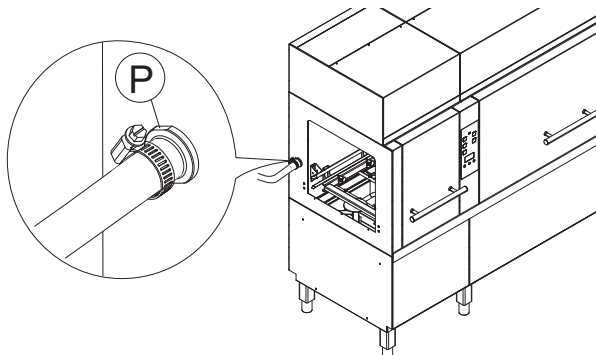

Figure 12 Solid detergent pipe connection
- fit the solid detergent pipe, coming from the external dispenser, on hose union "P" (Figure 12);